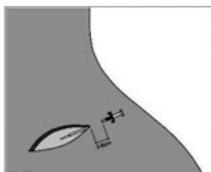

Figure 12
2. Insert the introducer needle through the skin to the wound site (at a distance of approximately 3 to 5 cm from the site) (See figure 12).